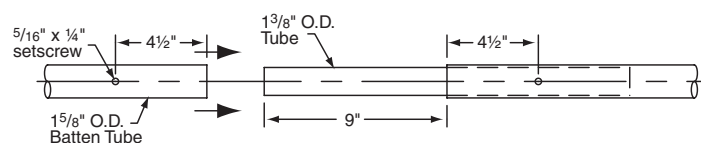

Figure 3
- ① Lay the curtain out with the top of the curtain close to the dangling wire rope cable.
- ② Slide 1⁵/₈" bottom batten tube into bottom pocket one section at a time, assembling as you go. Use 1³/₈" OD x 1'6" tube to connect sections of batten tube. Splice should be installed with so equal portions are inside each tube that is being connected. Install 5/16" x 1/4" setscrews in pre-drilled and tapped holes in batten tubes. Make sure outer tube sections are rotated to where the setscrews are in line prior to tightening (See Fig. 3).